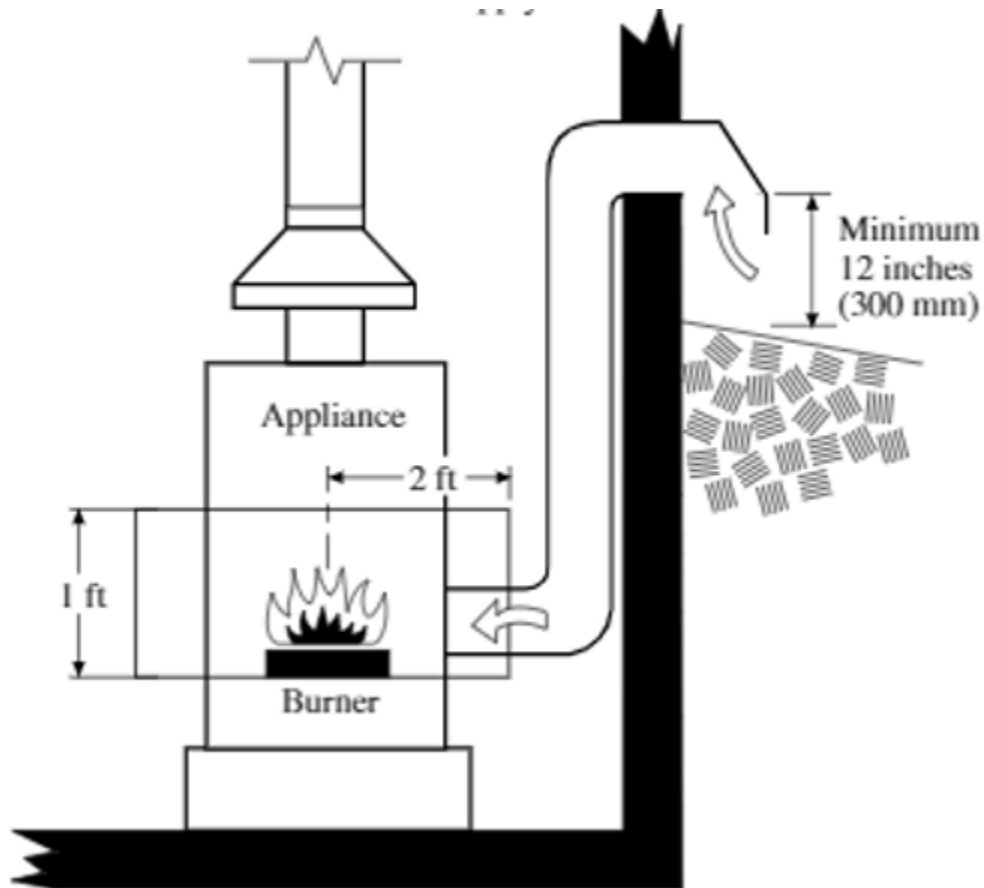

Figure 11. Passive air supply terminations
The passive air supply inside termination must be located within 2 ft (600 mm) horizontally and not more than 1 ft (300 mm) above, the burner level of the gas appliance (Figure 11). If there is more than one gas appliance in the area, the air supply will be located at the one with the largest input. This ensures that the air supply is dedicated to the appliance(s) served and will not be influenced by other equipment in the structure that also needs outside air.
- Figure 11. “Passive air supply terminations” – The source for this image is unknown. It is